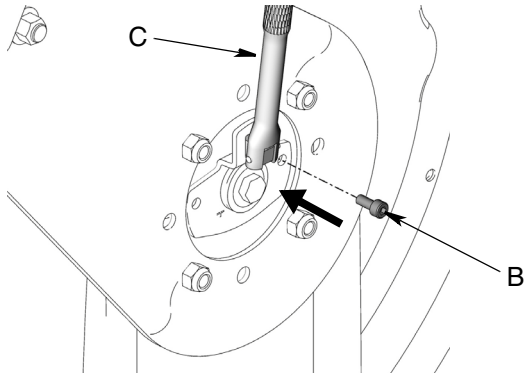

FIG. 14
5. Leave ratchet (C) in place and replace one screw (B) (FIG. 14).